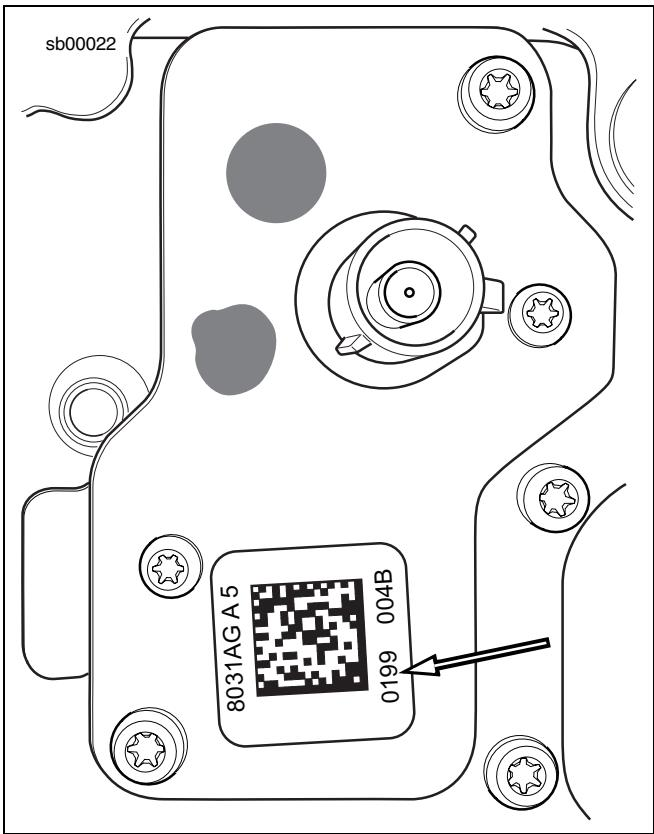

Figure 3. Navigation Module: Date Code (DDDY)
2. See Figure 3. Inspect the label on the navigation module.